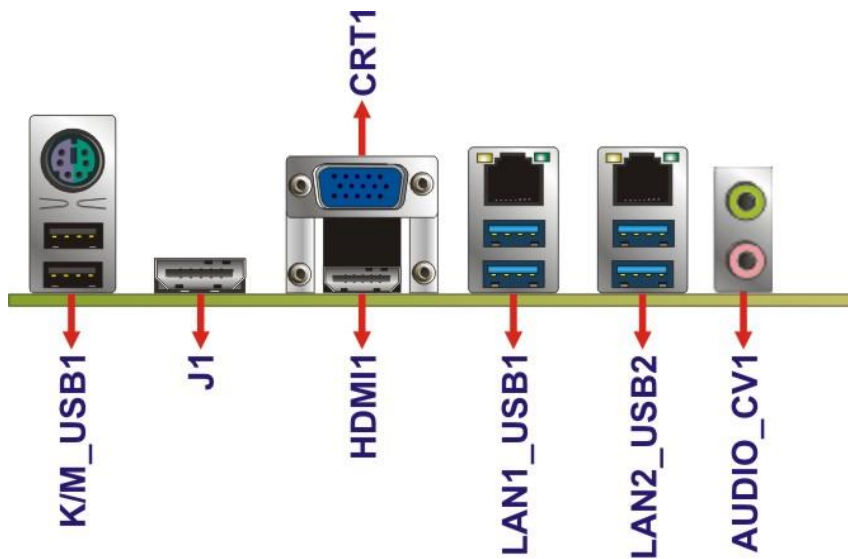

Figure 3-28: External Peripheral Interface Connector
Figure 3-28 shows the KINO-AQ170 external peripheral interface connector (EPIC) panel.
CN Location: See **Figure 3-28**
- CN Location:** See **Figure 3-28**
CN Location:	See Figure 3-28